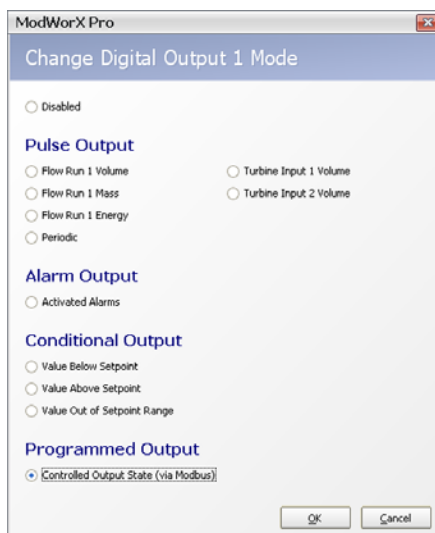

Figure 7.18
1. From the Change Digital Output screen, select **Controlled Output State** (Figure 7.18).